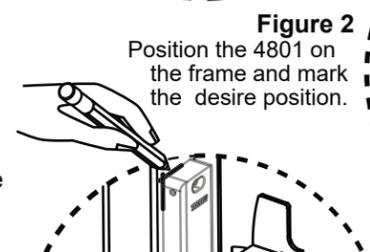

Figure 2
2. Using the marks you just made as your guide, position the 4801 over the mark on the frame. Make sure that the Auxiliary latch rides up properly over the 4801's edge, and is engaged, and that the door is in the fully closed position. See Figure 2